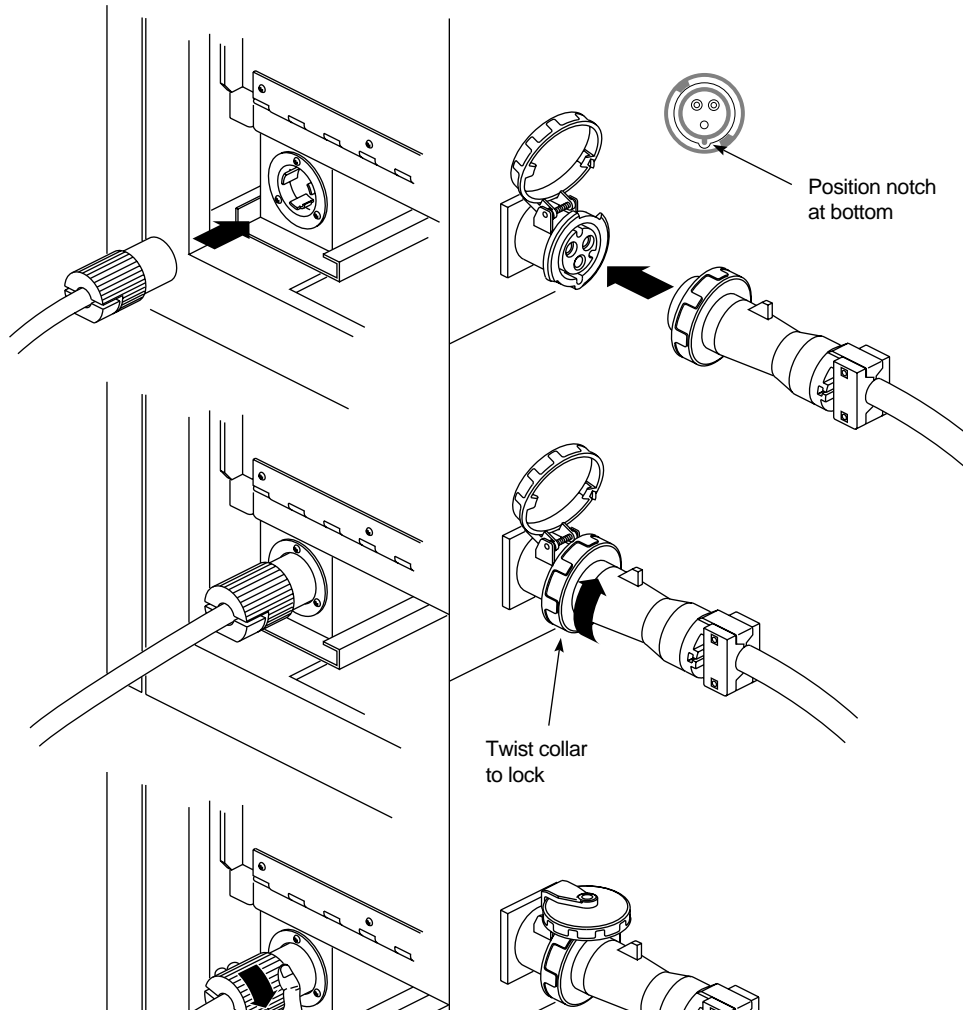

Figure 3-4 Connecting the System Power Cable
2. Insert the female end of the system power cable into the receptacle at the rear of the system chassis (see Figure 3-4). Secure the cable by turning the connector clockwise to engage the twist lock.